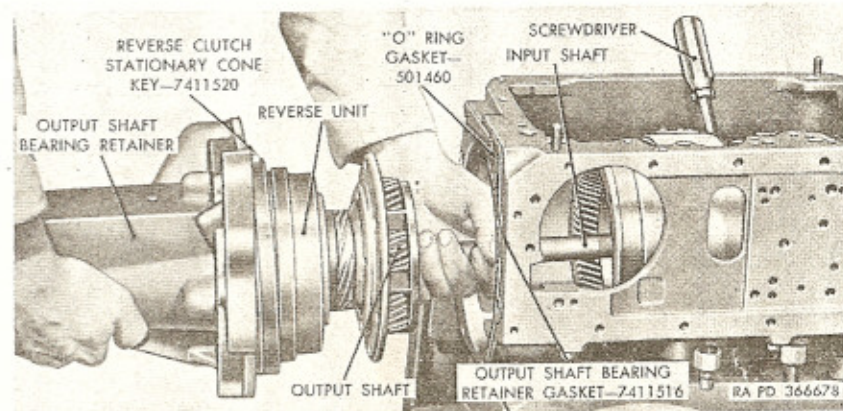

Figure 48. Removing or installing output shaft, output shaft bearing retainer, reverse unit, and input shaft (301MG).
c. Wedge large screwdriver between case center bearing cap and rear planetary drum to prevent clutch hub thrust washer from dropping out of place. Remove remaining center gear flange to rear drum attaching bolt and lock strap; then carefully withdraw output shaft bearing retainer (fig. 48) with shafts as a unit. Tap front end of input shaft with plastic hammer to start if necessary.